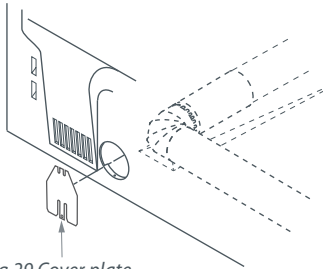

Fig.29 Cover plate
- Cover the original duct opening at the back with a plate (kit WE1M454, available from Fisher & Paykel (refer to page 84)). Refer to Figure 29 (page 37).